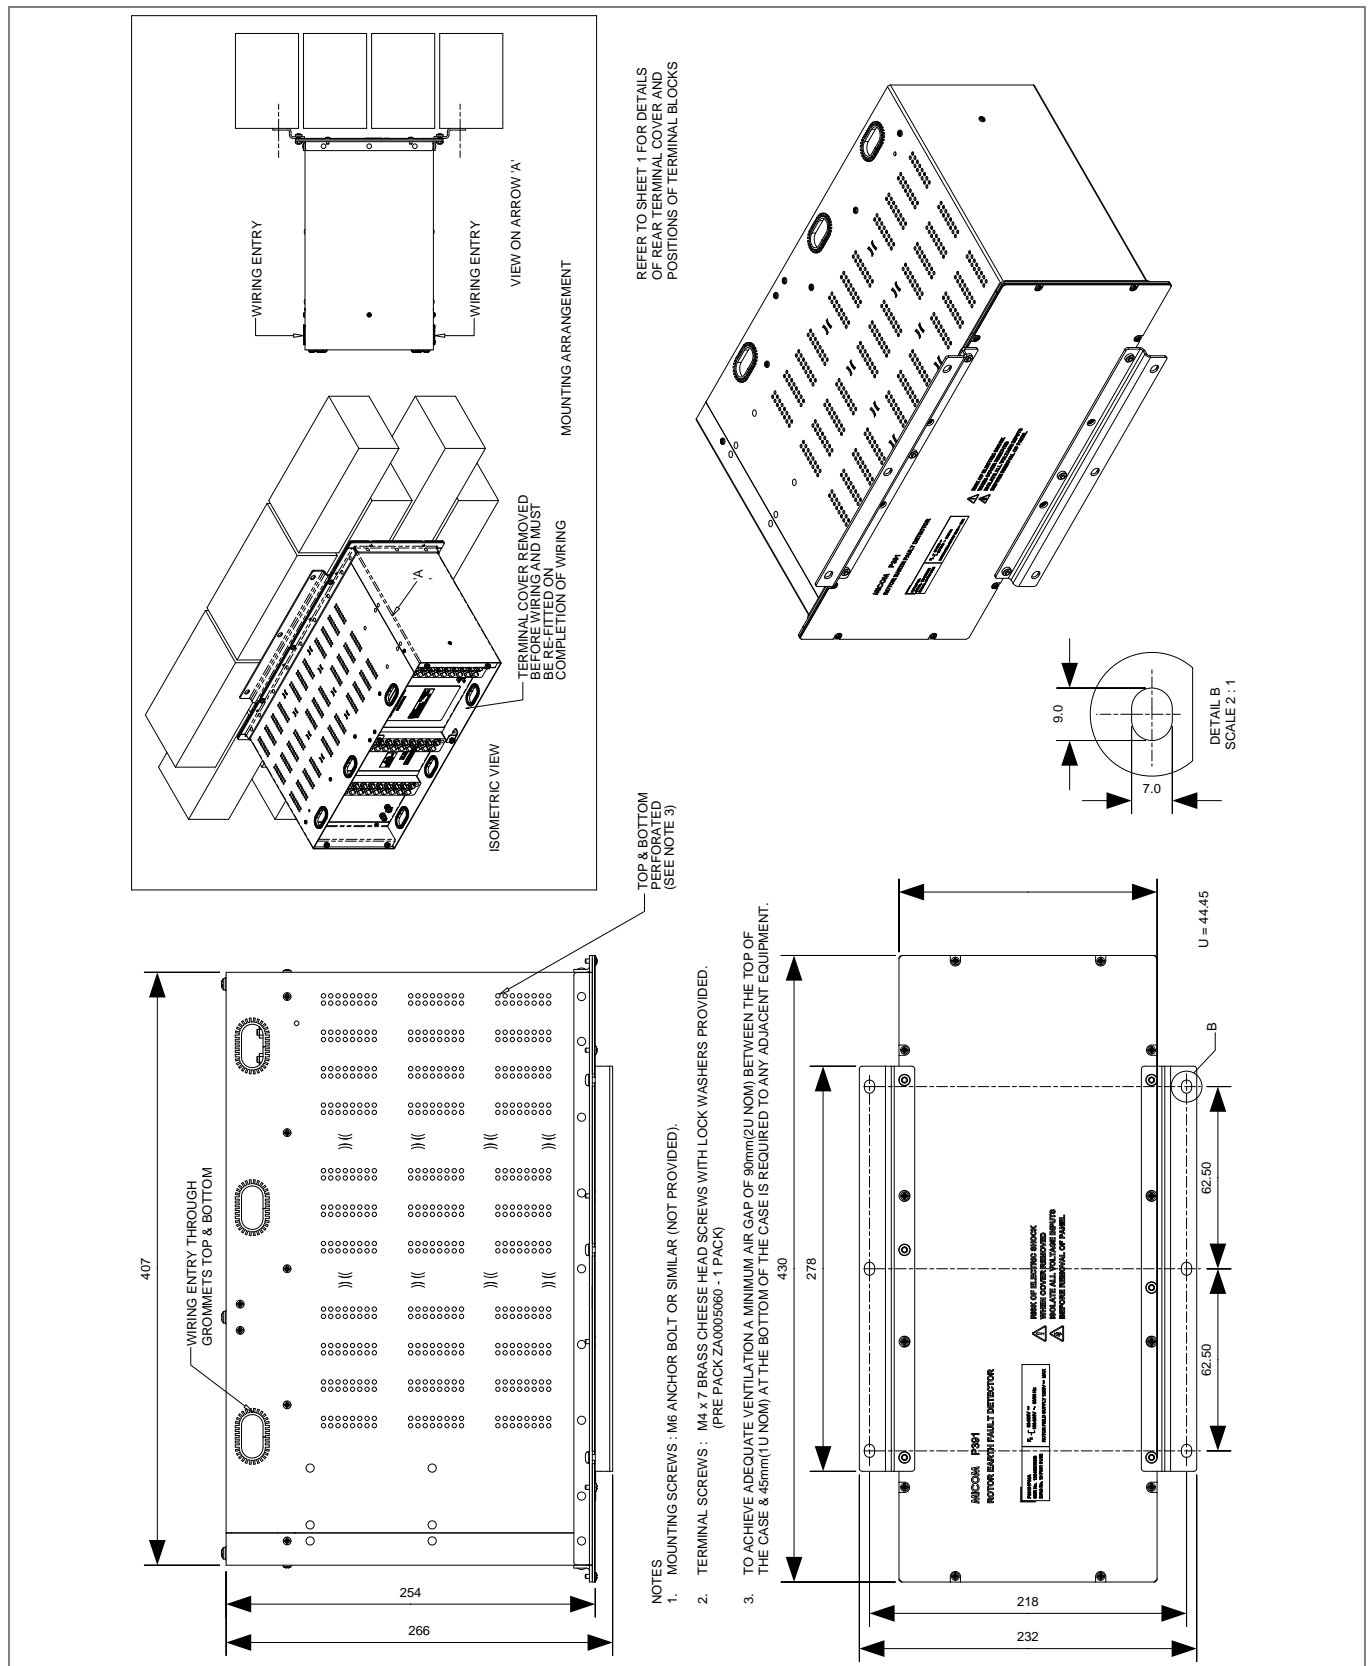

Figure 5 - P391 outline and wall mounting details (80TE case)
- Figure 5 - P391 outline and wall mounting details (80TE case)